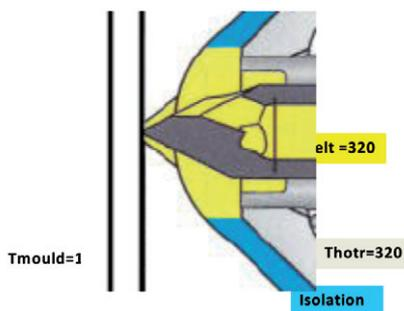

Figure 1: Heat loss at nozzle gate
- Heat loss at gate can cause gate freeze problems (see figure 1)